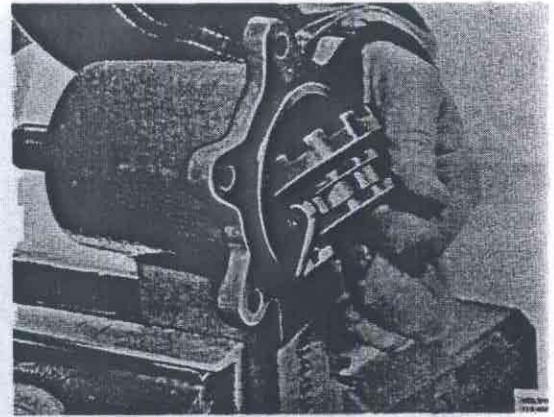

Fig. 43-162. Removing engaging sleeve
6. Remove the engaging sleeve and the selector fork, Fig. 43-162.